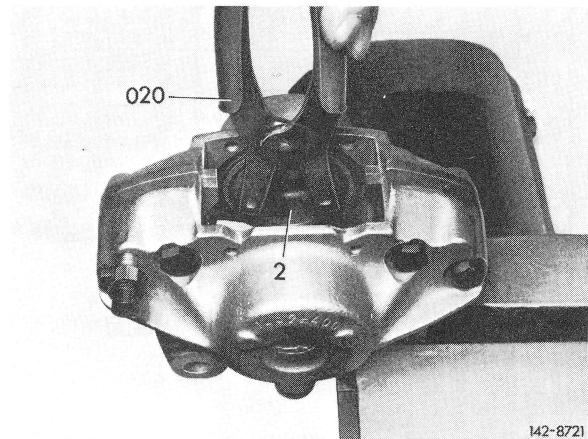

Fig. 13
11 If required, move piston into correct position with piston rotating pliers (020) (Fig. 13).